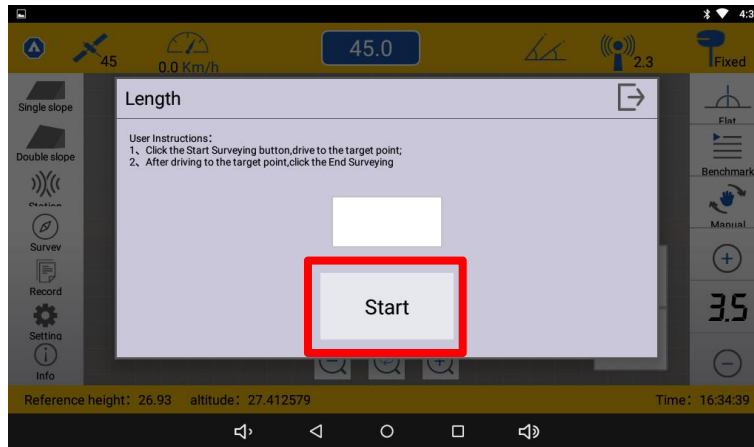

Figure 26
Step2. Drive the tractor to the starting point and click the Start button. (Figure 26)